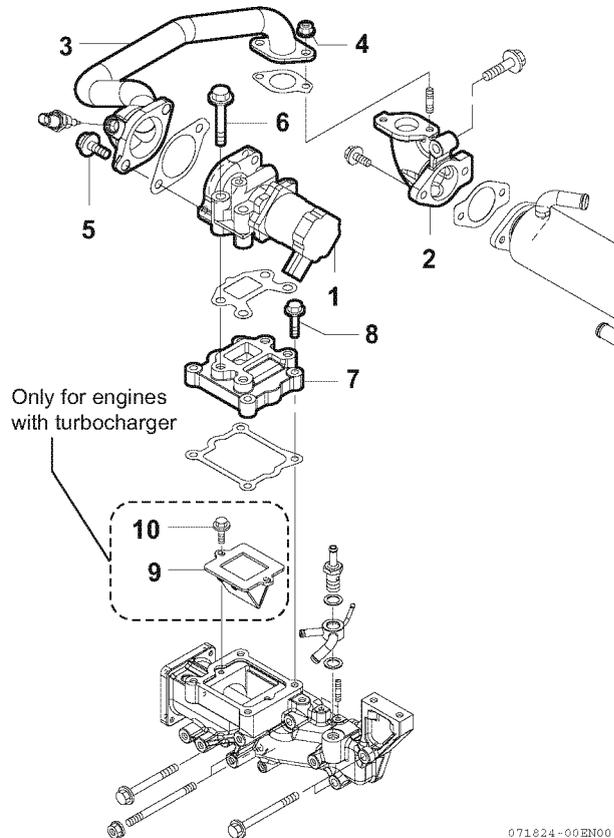

Figure 6-115
2. Remove the connector from the EGR valve (1, **Figure 6-115**). (Leave the connector attached when checking or cleaning the EGR valve.)
3. Loosen the flange nut (4, **Figure 6-115**) that mount the EGR cooler outlet vent (2, **Figure 6-115**) and the EGR pipe (3, **Figure 6-115**).
4. Loosen the flange bolt (5, **Figure 6-115**) that mount the EGR pipe and EGR valve (1, **Figure 6-115**), and remove the EGR pipe.
5. Loosen the EGR valve mounting bolt (6, **Figure 6-115**), and remove the EGR valve.
1. After removing the EGR valve, loosen the bolt (8, **Figure 6-115**) mounting the EGR lead valve spacer (7, **Figure 6-115**), and remove the spacer.
2. Loosen the bolt (10, **Figure 6-115**) mounting the EGR lead valve (9, **Figure 6-115**), and remove the lead valve.